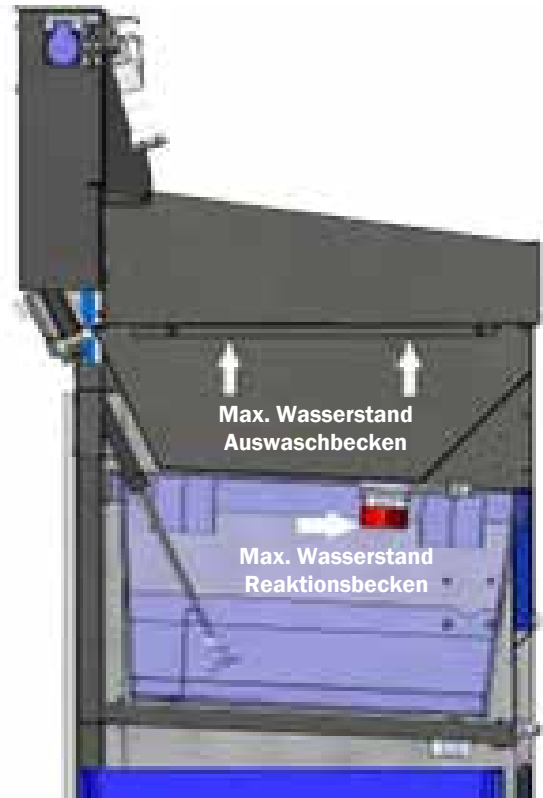

Fig. 4
- Cleaning the rollers in the roller pre-wash basin (9) Fig. 4
Before the wash water can be treated for further use, the wash basin must be filled to the maximum water level, Fig. 4.